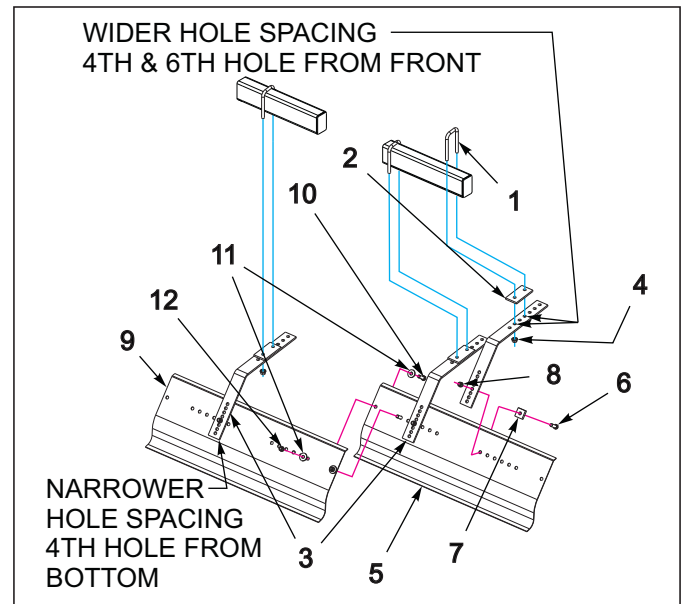
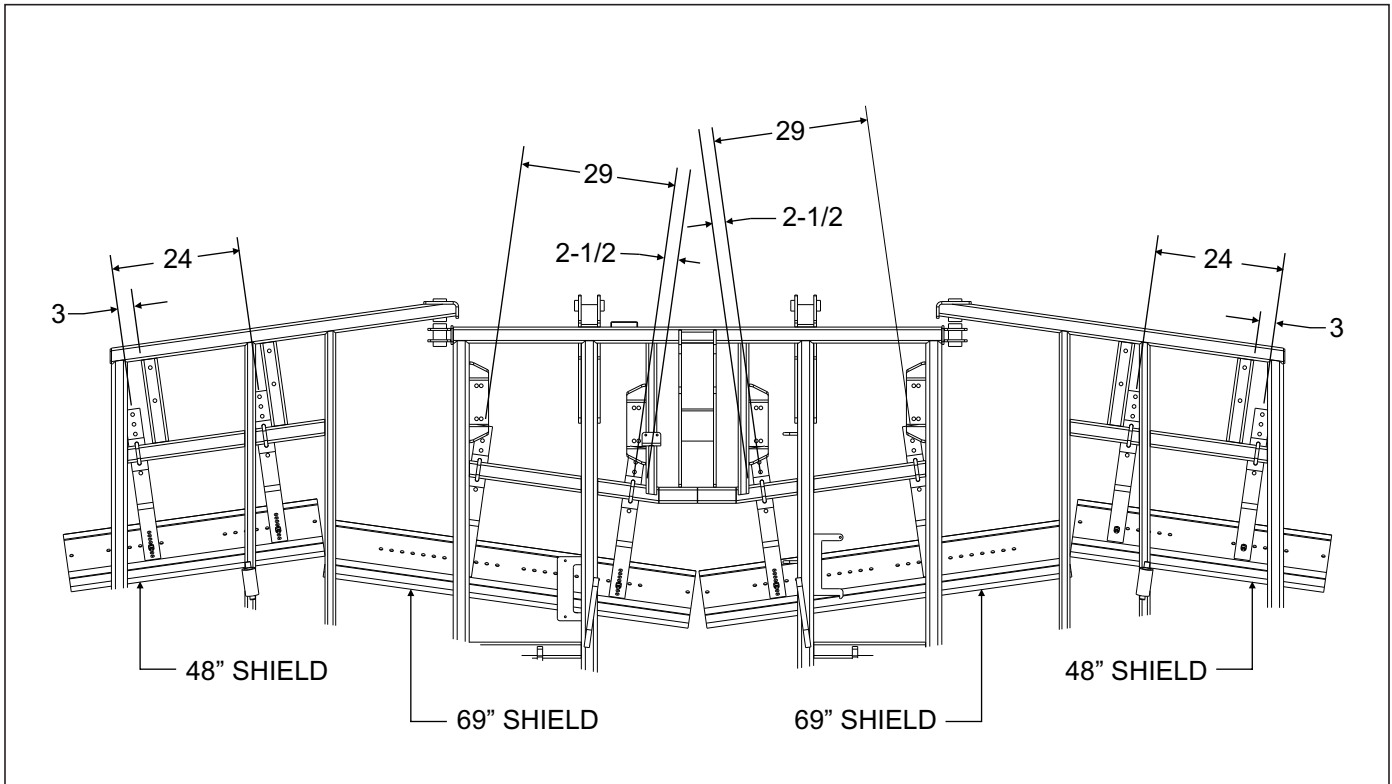

Figure 3-2: Gang Shield Assembly
Figure 3-11: Gang Shield Installation - 19'
5. Optional Gang Shield Assembly – **See Figure 3-2 Refer to the Gang Shield Layout drawings for proper placement See Figures 3-11 through 3-17.** Install 5/8-11X7X3-11/16 u-bolts (item 1) on frame, through the clamp bracket (item 2), through the 4th & 6th holes from the front (wider hole spacing) of the adjustable brackets (item 3), secure with 5/8-11 flange lock nuts (item 4). Attach the spray shields (item 5) to the adjustable bracket in the 4th hole from the bottom (narrower hole spacing) using 5/8-11X2 bolts (item 6), backup plates (item 7), and 5/8-11 slfkg nuts (item 8). On 33' & 35' models bolt the adjustable brackets (item 3) to frame and spray shield (item 9) as shown in first part of step 5. Now attach both spray shields together with 5/8-11X2 bolts (item 10), 5/8 flat washers (item 11), one on top and bottom side, secure with 5/8-11 flange lock nuts (item 12) When all components are in positions shown **See Figures 3-11 through 3-17**, all bolts may be tightened to specs.